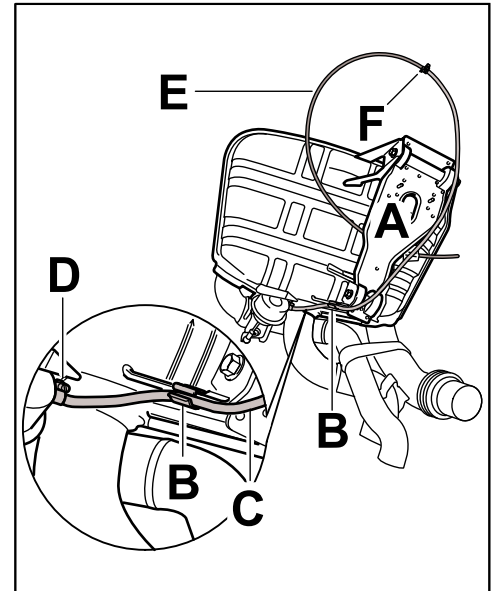

Figure 4
- 1.4.1 Remove stop-chock holder (\Rightarrow *Figure 4 -A-*) from old rear muffler and fit it on the new rear muffler using new M8 hexagon nuts (2 x).
- 1.4.2 Clip in hose clip (7.0 - 9.0; 1 x \Rightarrow *Figure 4 -B-*) on the web plate bearing (small) of the stop-chock holder (see inset, \Rightarrow *Figure 4*).
- 1.4.3 Connect hose (encased in steel; 1 x \Rightarrow *Figure 4 -C-*) to the connection nipple on the vacuum unit and secure with a hose clamp (\varnothing 6 x 7 mm; 1 x \Rightarrow *Figure 4 -D-*).
- 1.4.4 Clip hose (encased in steel; \Rightarrow *Figure 4 -C-*) into the hose clip (7.0 - 9.0, \Rightarrow *Figure 4 -B-*) on the web plate bearing (small).
Insert Tekalan line (4 x 1 x 250; 1 x; \Rightarrow *Figure 4 -E-*) at least 15 mm deep into the hose (encased in steel).
- 1.4.7 Secure hose (encased in steel; \Rightarrow *Figure 4 -C-*) and Tekalan line (4 x 1 x 250, \Rightarrow *Figure 4 -E-*) with a hose clamp (\Rightarrow *Figure 4 -F-*).